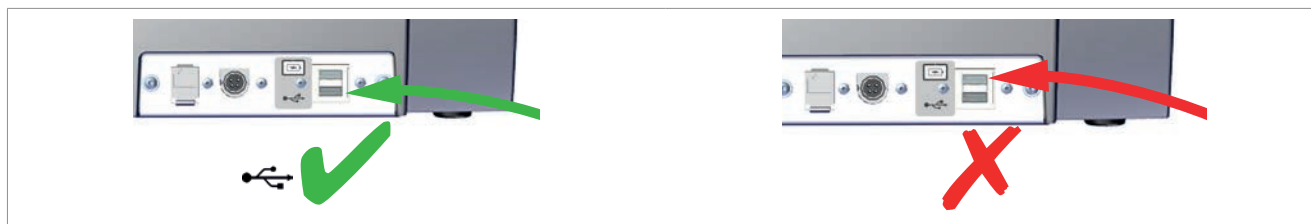

Fig. 9
- on a USB key connected to the machine's USB port (Fig. 9).